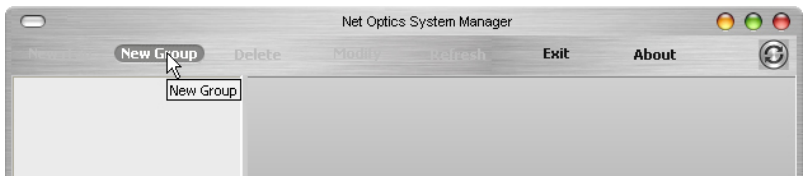
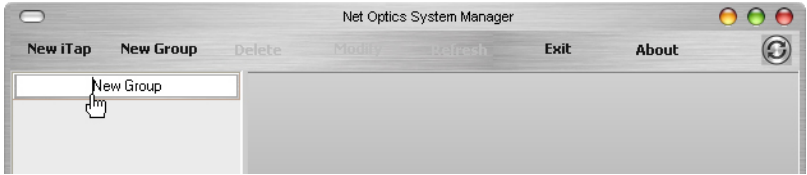

Figure 28: New Group
Figure 29: Group Bar
1. Click **New Group** in the toolbar as shown in Figure 28. A new group bar appears in the System Frame as shown in Figure 29.